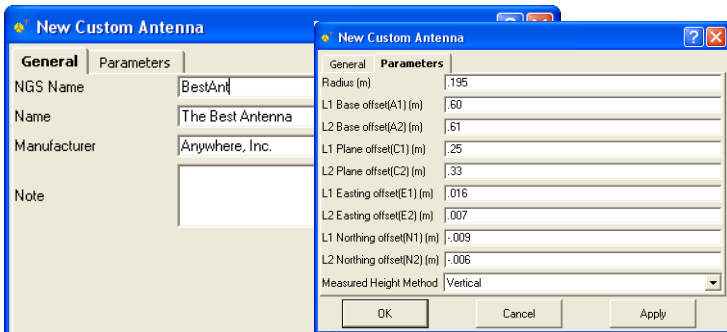

Figure 5-9. New Custom Antennas – General and Parameters Tabs
- On the *General* tab of the *New Custom Antennas* dialog box, edit the *NGS Name*, *Name*, *Manufacturer*, and *Note* fields (Figure 5-9 on page 5-11). Then click **Apply** to save the information.
- On the *Parameters* tab of the *New Custom Antennas* dialog box, enter the *Radius*, *offsets*, and *Measured Height Method* parameters for the antenna (Figure 5-9 on page 5-11). Then click **Apply** to save the information.